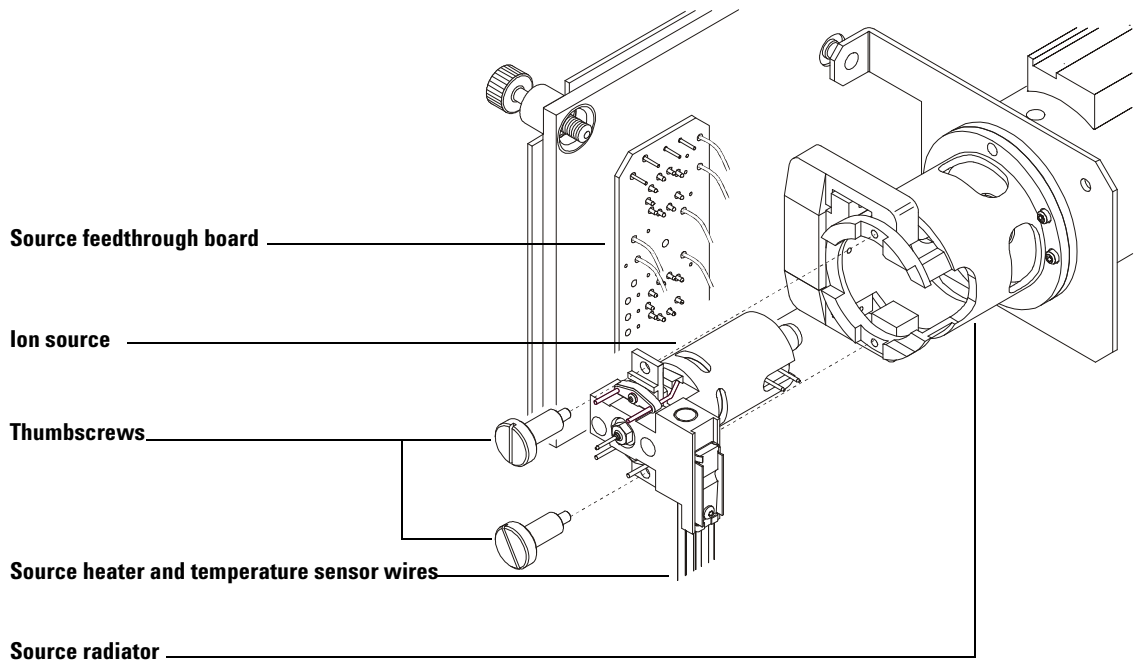

Figure 11 Removing the ion source
- 4 Disconnect the seven wires from the ion source. Do not bend the wires any more than necessary (Figure 11 and Table 7).